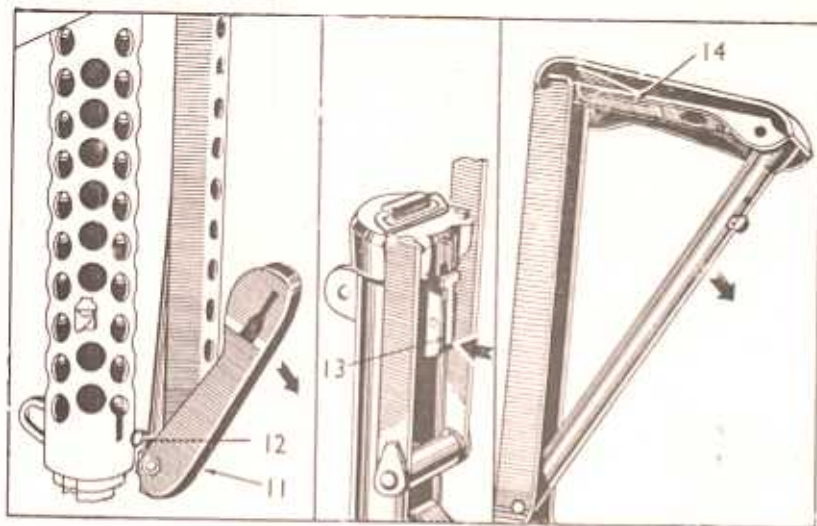

Fig. 8. To open butt
- 6.0 TO OPEN BUTT** (Fig. 8). Hold the weapon with the left hand near the backsight with the barrel pointing towards the ground. Pull the butt plate (11) outwards with the right hand to release the butt catch (12) and swing the butt to the rear of the weapon. With the thumb of the left hand press the back cap catch (13) and snap the butt into engagement with the lugs on the back cap. Open the butt frame to form a triangle and the butt plate catch (14) will engage to lock.